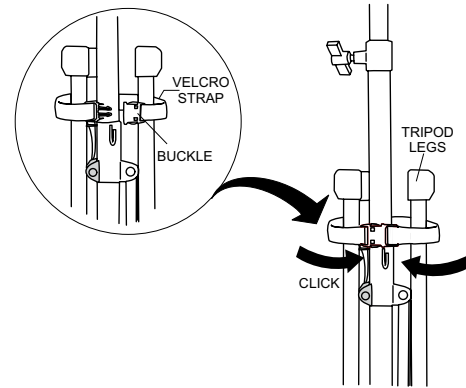

Figure 22. Velcro Strap (Closed)
- Once tripod legs are in the stow position, place velcro strap (Figure 22) around all three tripod legs. Secure tripod legs by inserting the male and female connector ends of the strap into each other.